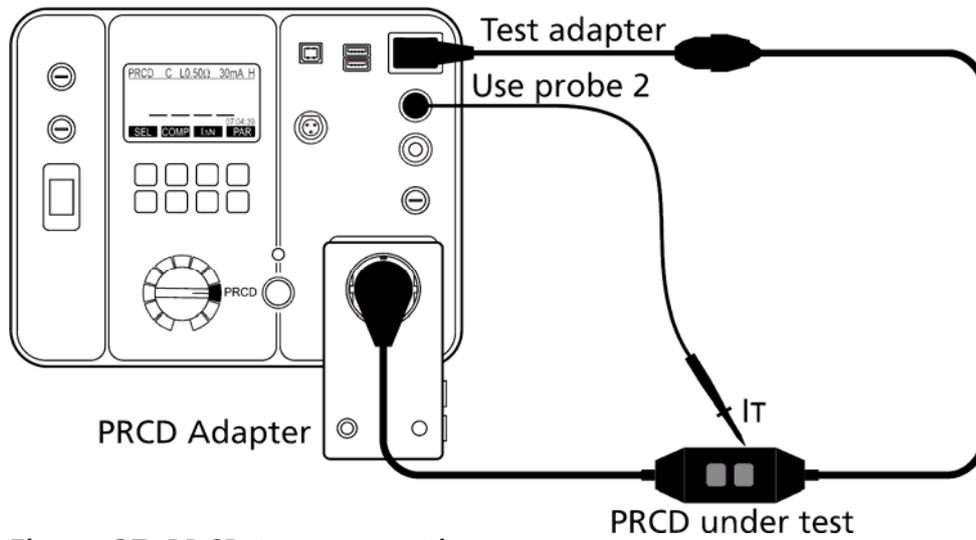

Figure 37: PRCD test connection
- Connect the PRCD according to one of the figures 37, 38, 39 or 40 below, depending on type of the PRCD under test. Use PRCD-Adapter and test adapter for any type of PRCD.
- Select appropriate nominal differential current by using the "I Δ N" menu key (10 or 30 mA).